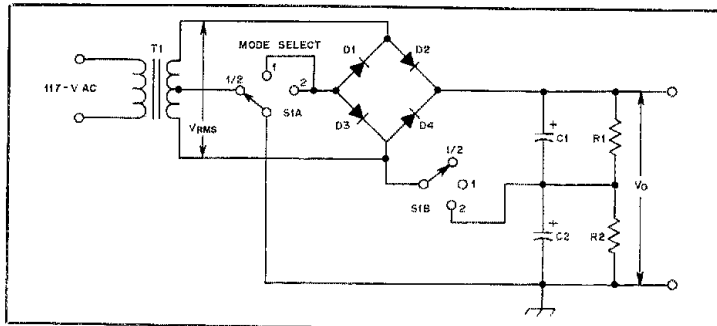

Fig. 1 — Schematic diagram of a triple-mode power supply. Component values and ratings are discussed in the text.
□ A low-voltage utility power supply can serve triple duty if a double-pole, triple-throw switch is included in the circuit, as shown in Fig. 1. You may choose to build a separate supply or add a switch to one you already have. This supply provides a switch-selectable output: either as a full-wave center-tapped circuit, a bridge-rectifier circuit or as a full-wave voltage-doubler circuit.